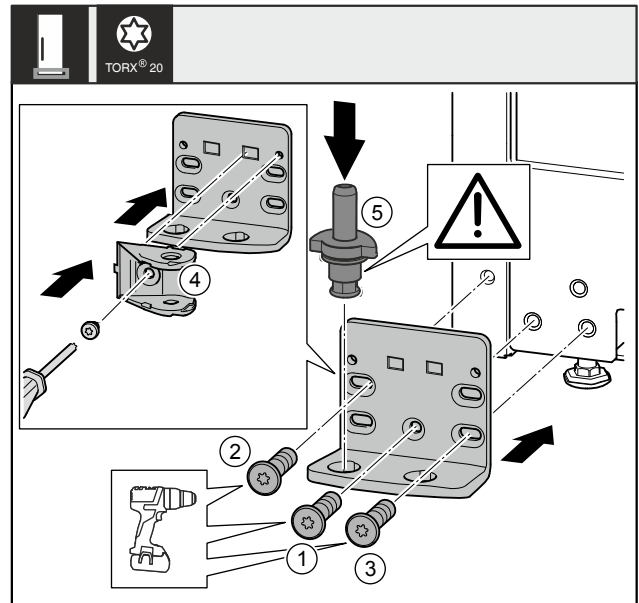

Fig. 33
- Attach the swap bearing block onto the other side and screw it on using a screwdriver. Start with the screw Fig. 33 (1) at the bottom center.
- Tighten screw Fig. 33 (2) and screw Fig. 33 (3).
- Turn the closing damper connection Fig. 33 (4) by 180°. On the other side of the swap bearing block, screw it on with the screwdriver.
- Insert the bearing pin Fig. 33 (5) completely. In the process, make sure that the latching cam shows towards the rear.